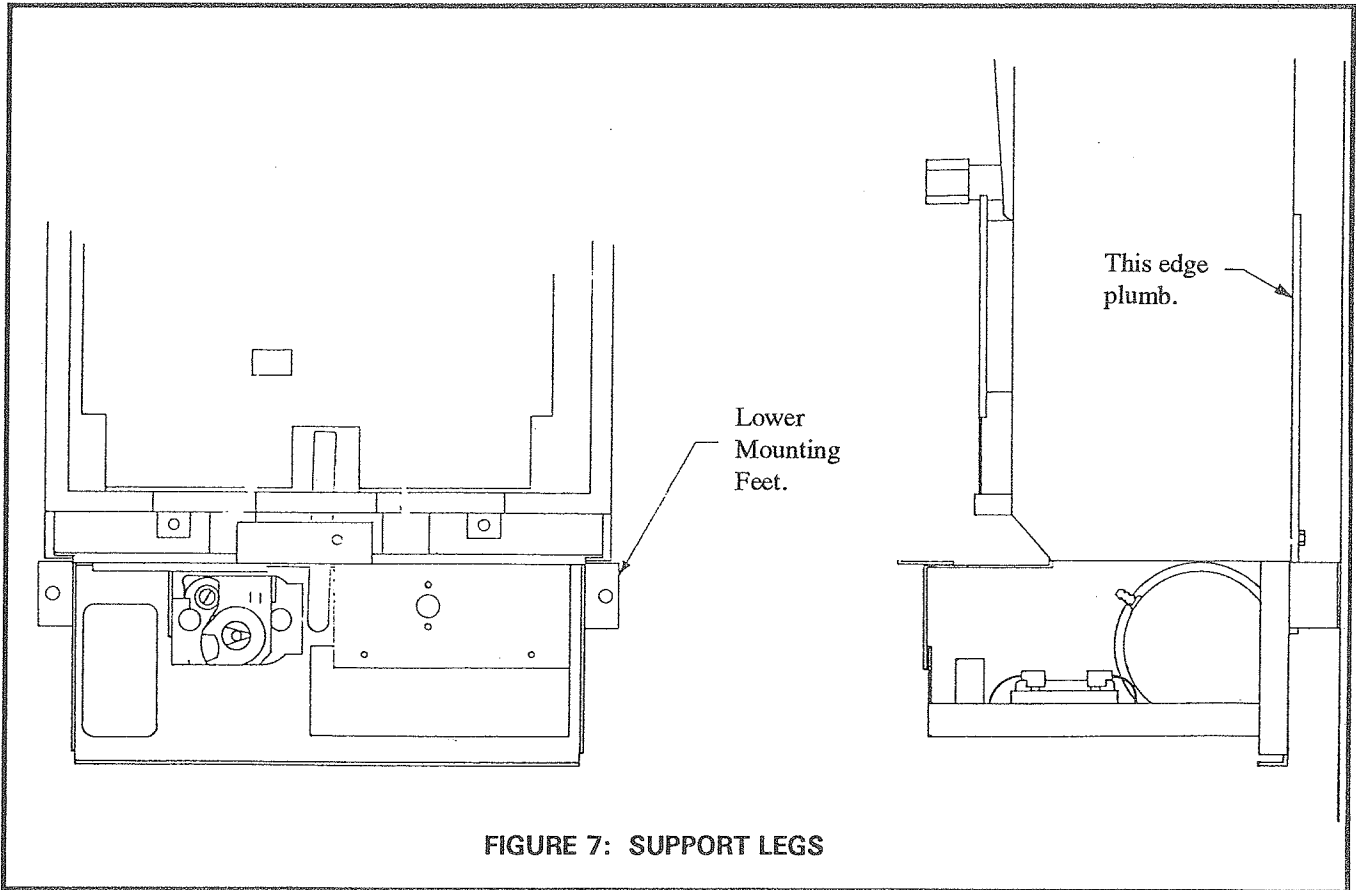

FIGURE 7: SUPPORT LEGS
- c) Remove control cover. Center boiler hook in slot in the sideways direction. Check that boiler is plumb and attach boiler to wall with #10 x 1-1/4" screws and 3/16" washers through lower mounting feet (Fig. 7).